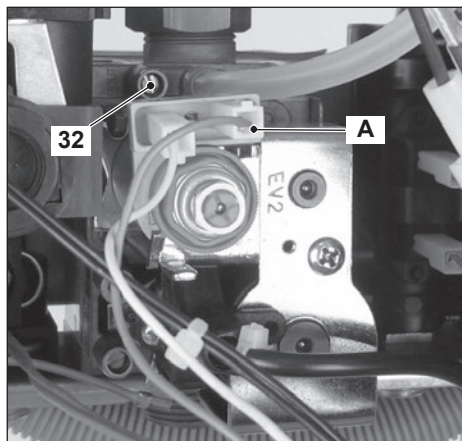

Fig. 7.8
- Loosen the internal screw 32 (Fig. 7.8) on the Outlet Pressure Test Point of the Gas Valve and connect a pressure gauge using a suitable hose.
moving the electrical connector A (Fig. 7.8).
- Open the gas valve outlet pressure test point 32 (Fig. 7.8) and connect the gauge.